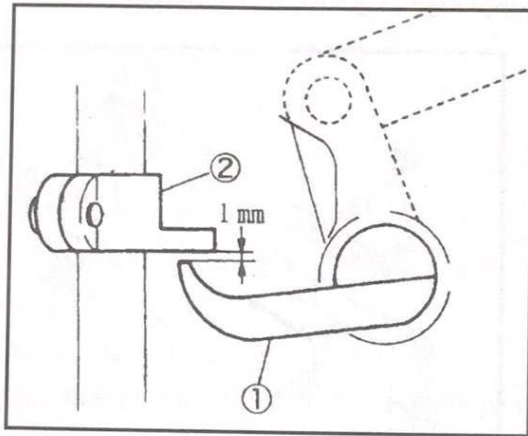

Fig.3
1. 當壓腳緊貼在針板上時，在抬壓腳連接軸①跟壓腳連接托架②留 1mm 的間隙。(Fig.3,4)
1. As standard, make the clearance between the presser bar lifter lever ① and the presser bar connecting bracket ② to 1 mm when the presser foot touches the stitch plate closely.(Fig. 3,4)